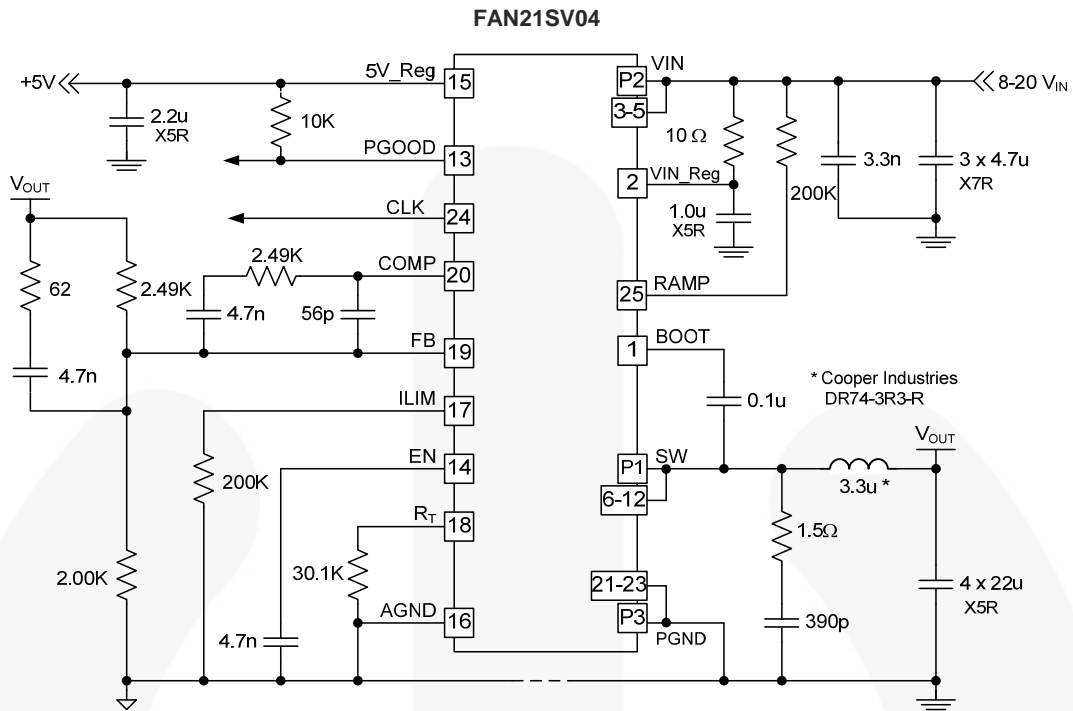
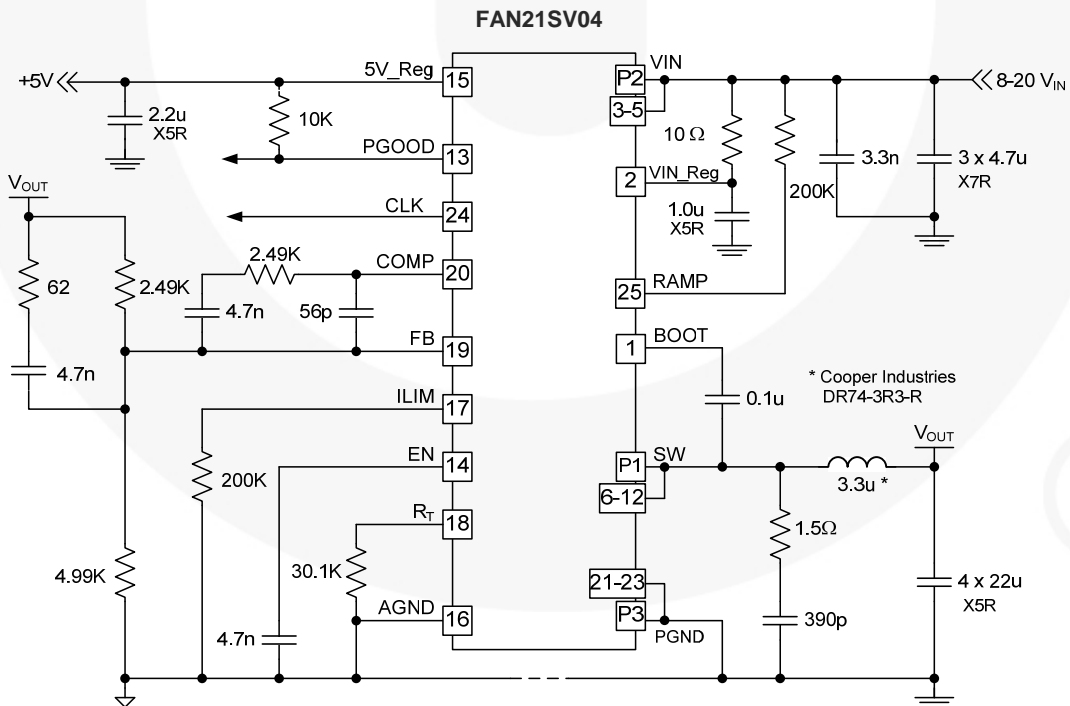

Figure 10. Single-Supply Application Circuit: 1.8 V_{OUT}, 500 KHz, Master, 8 V – 20 V Input
Figure 11. Single-Supply Application Circuit: 1.2 V_{OUT}, 500 KHz, Master 8 V – 20 V Input
Typical operating characteristics using the Figure 10 circuit; $V_{IN}=12\text{ V}$, $V_{CC}=5\text{ V}$, $T_A=25^\circ\text{C}$, unless otherwise specified.
4. Circuit values for this configuration change in Figure 10.
- Circuit values for this configuration change in Figure 10.
Typical operating characteristics using the Figure 10 circuit. $V_{IN}=12$ V unless otherwise specified.
For applications with $V_{IN} < 6.5\text{ V}$, FAN21SV04 can be used if V_{IN_Reg} is provided with a separate low-power source $>6.5\text{ V}$. V_{IN_Reg} supply should come up after V_{IN} during dual-supply operation. The V_{IN_Reg} pin should always be decoupled with at least a $10\text{ }\Omega$ resistor and a $1\text{ }\mu\text{F}$ ceramic capacitor (see Figure 10, Figure 11).